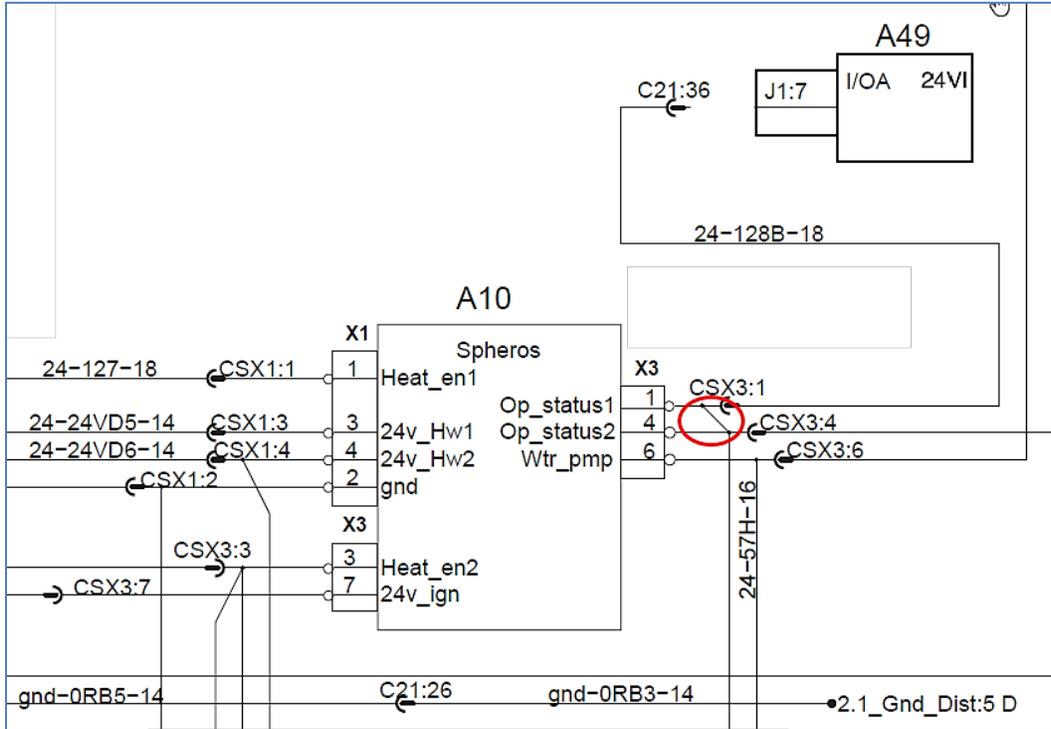

FIGURE 56
10. On the preheater harness, locate connector CSX3. Remove the jumper cable connected between connector CSX3 pin 1 cavity and pin 4 cavity (Figure 56).